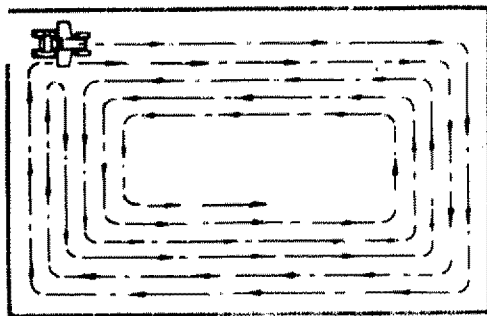

FIGURE 24
13. Drive so that clippings are discharged onto the area that has been cut. Have the cut area to the right of the machine. This will result in a more even distribution of clippings and more uniform cutting. When mowing large areas (Fig. 24), start by turning to the right so that the clippings will be discharged away from shrubs, fences, driveways, etc. After two or three rounds, mow in the opposite direction making left hand turns until finished. If grass is extremely tall, it should be mowed twice. The first time cut relatively high. The second time to the desired height. The left hand side of mower should be used for trimming.